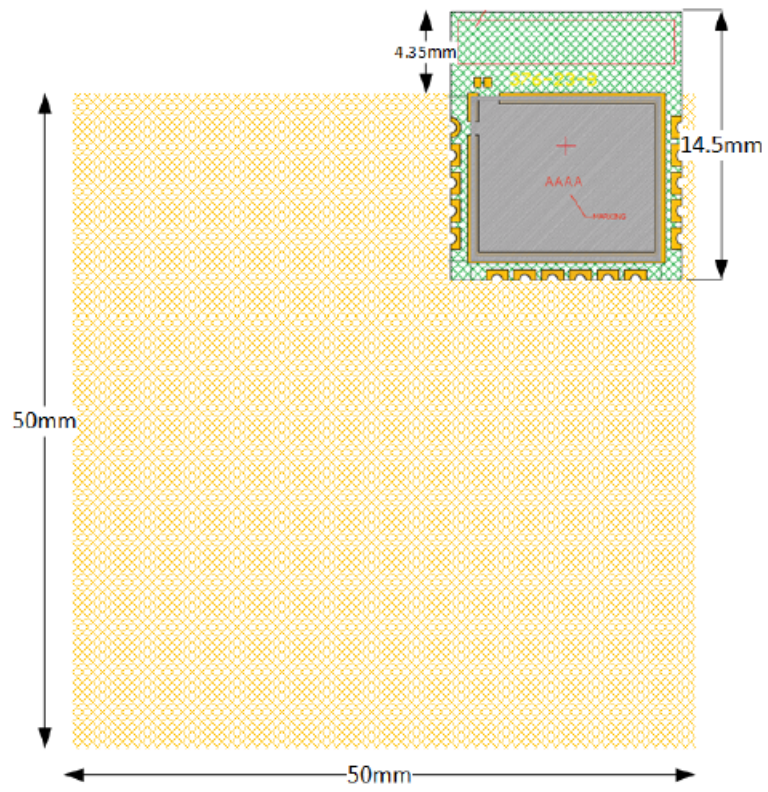

Figure 12: DA14535 TINY™ Module Evaluation Board
- The SPI Bus of DA14535 is used for the communication of the SoC with the NOR Flash at boot time. Three of the four signals are not driven to external module pins. For this reason, a sensor that utilizes the SPI bus must be assigned (by software) to the module pins to communicate with after the boot is completed and when NOR Flash is no longer in use. An example is given in Figure 12.
The actual TINYTM module evaluation board layout that has been used to conduct measurements is shown in Figure 12.